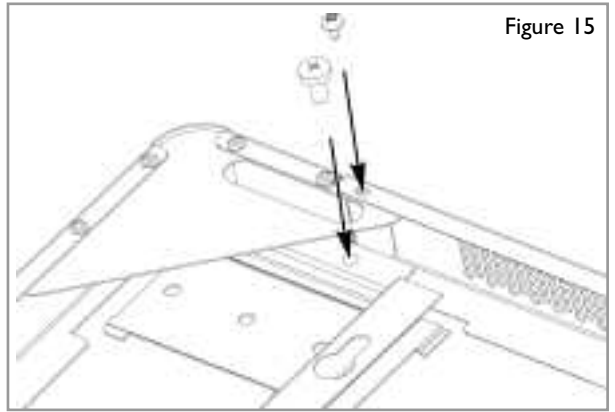

Figure 15
5. Secure the grille in position using two M6 screws and two no. 8 self tapping screws as shown in figure 15.